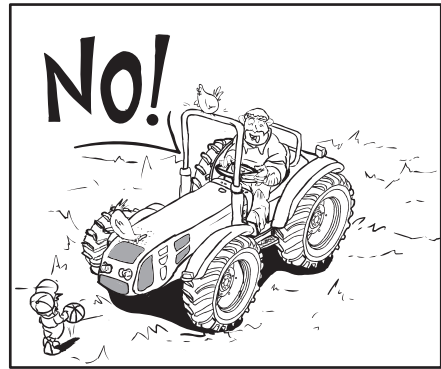

Fig. 2.12
*Your tractor is designed to be used by one person only. Do not allow others to get on the tractor or the implements (Fig. 2.12). Do not allow anyone to climb onto the implements or other equipment, including trailers, except on certain harvesting implements where it is specifically envisaged, but only during actual harvesting (not during transport). This equipment must have indications that define the area where you can safely climb onto it. Do not allow children to get on the tractor.*